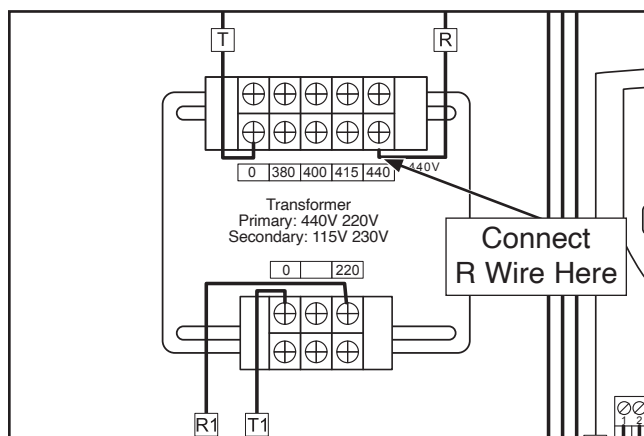

Figure 13. R wire connected to 440V transformer terminal.
12. Connect R wire to 440V terminal on transformer (see **Figure 13**).